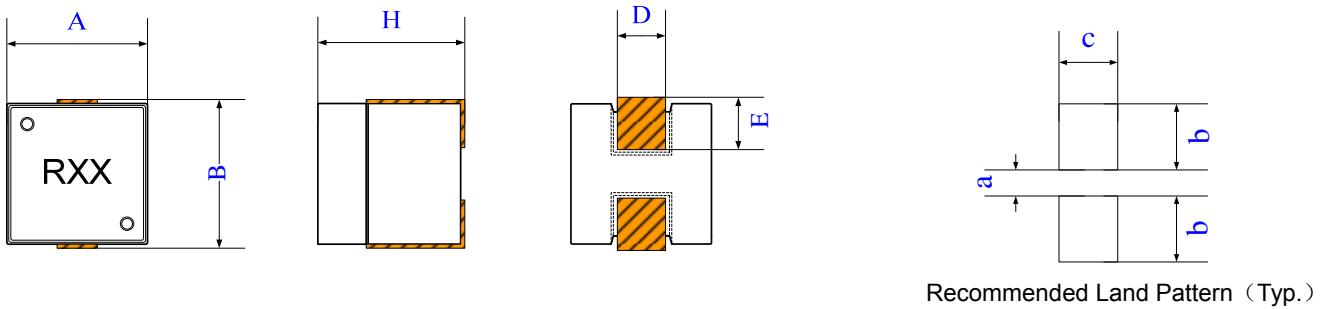

Fig.3-1
Dimensions and recommended PCB pattern for reflow soldering, please see Fig.3-1 and Table 3-1.
- ※4: Nominal DCR is measured from point a' to point b'. (Refer to Fig. 3-1)